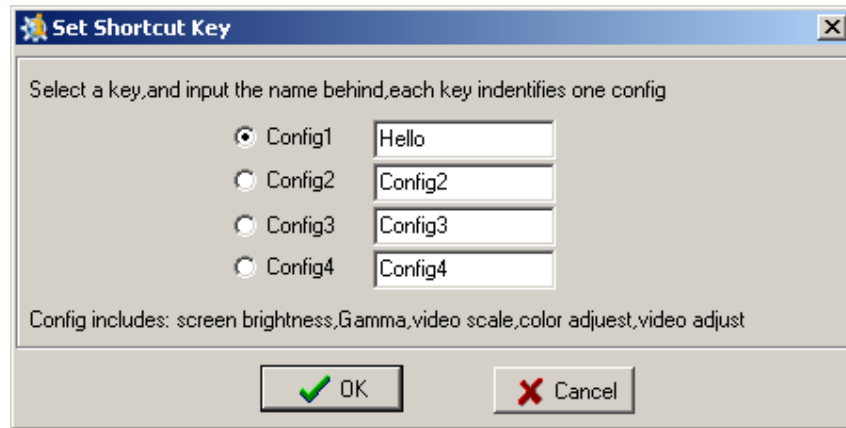

Fig. 19: Set Shortcut
Step 2: Choose one shortcut and name the shortcut in the "Set Shortcut" interface as shown in Fig. 19. For example, you can input Hello in Config 1 :